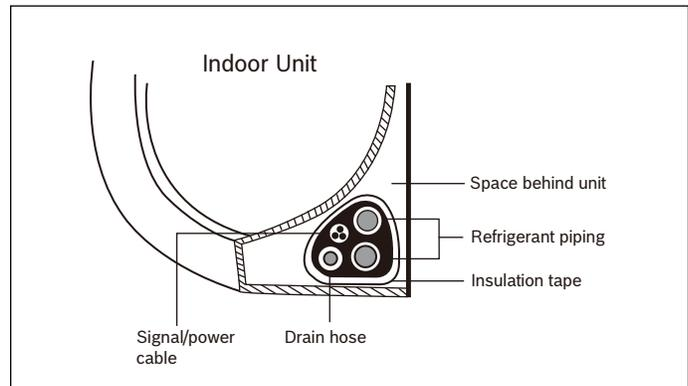

Figure 19
- Bundle the drain hose, refrigerant pipes, and signal/power cable according to Fig. 19.
3. Using insulation tape, wrap the signal/power wire, refrigerant pipes, and drain hose tightly together. Double-check that all items are bundled in accordance with Fig. 19.